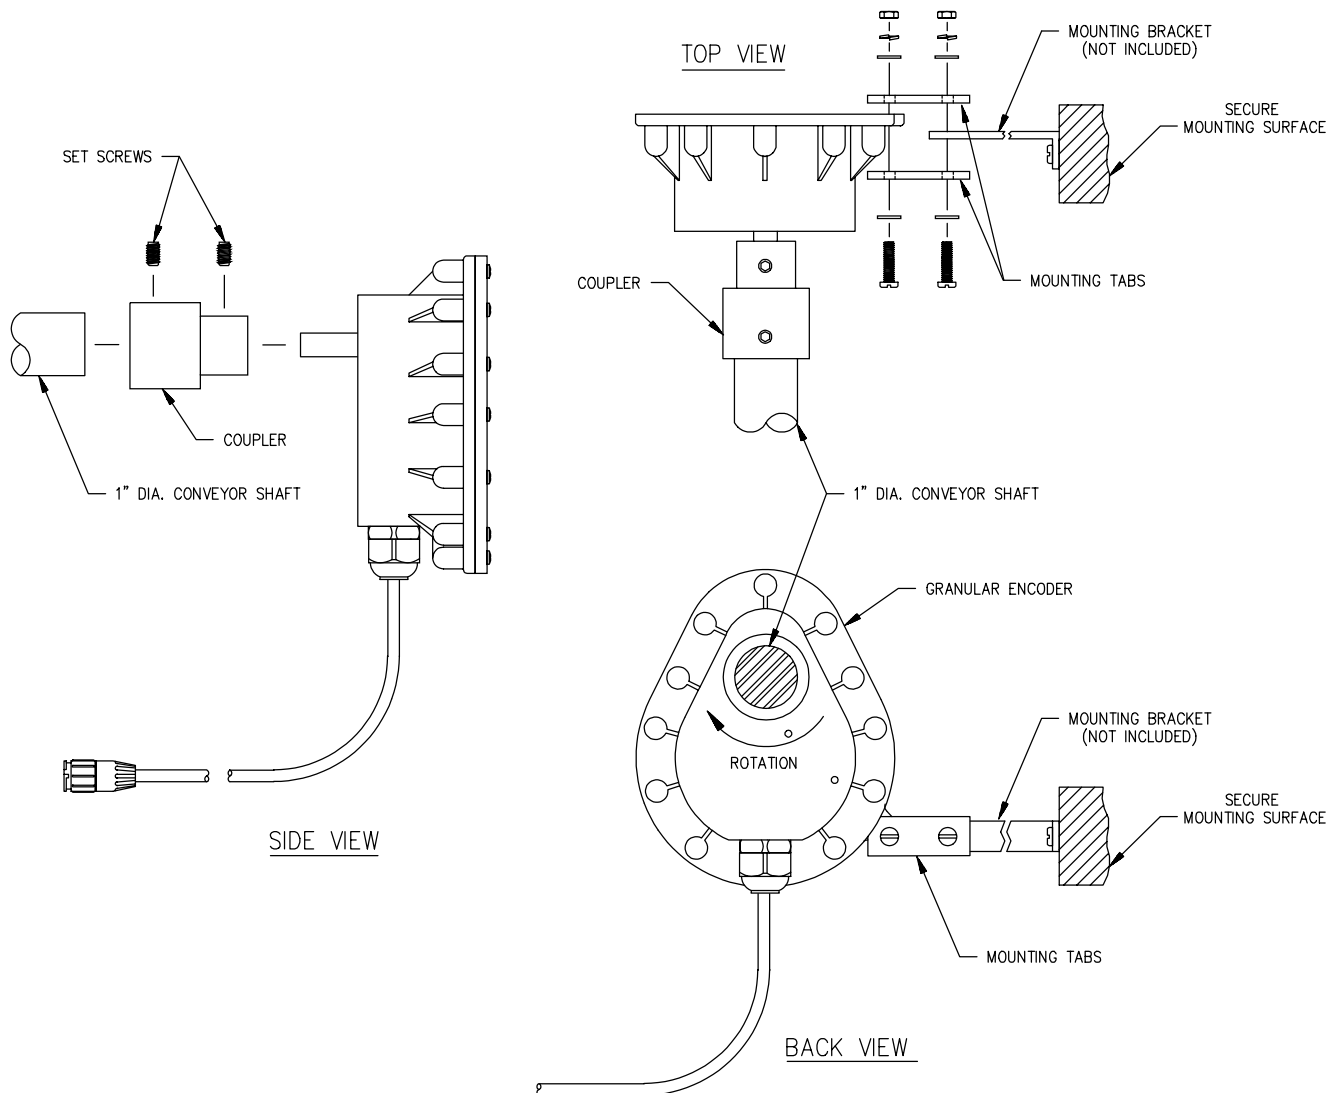

FIGURE 6
- 3) Install mounting tabs to Encoder as shown in Figure 6. Connect mounting tab to mounting bracket (not provided) to prevent Encoder from rotating. **DO NOT** rigidly mount Encoder. Encoder is to be supported by coupler **ONLY**.